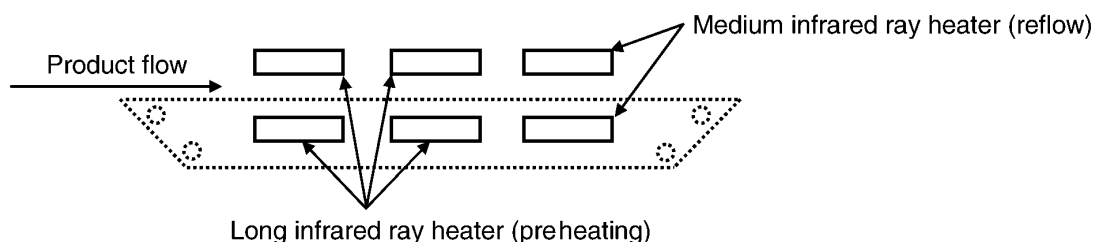

Fig. 9.1.1 Heating the Top and Bottom with Long or Medium Infrared Rays
- (1) It is recommended the top and bottom heating method with long or medium infrared rays. (See Figure 9.1.1.)